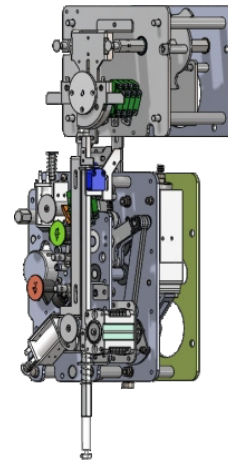

Figure 2-6 Electric operating mechanism
- The electric operating mechanism (see Figure 2-6) offers multiple power supply options: DC 24V, DC 48V, DC 110V, or DC/AC 220V.